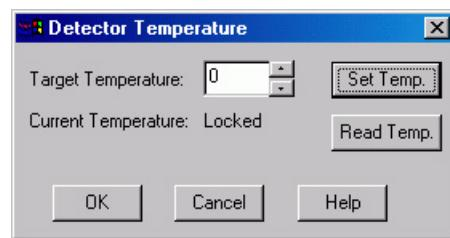

Figure 30. Temperature dialog box
1. Open the WinSpec/32 Setup menu and click on **Detector Temperature**. This will cause the Temperature dialog box to appear as shown in Figure 30.